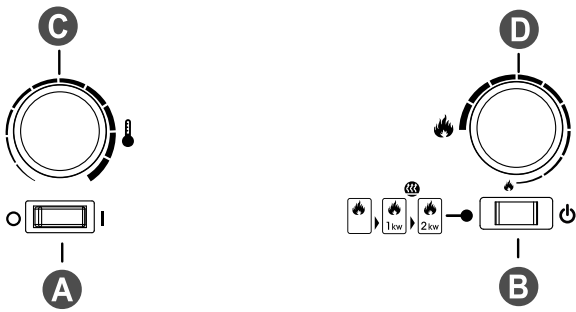

Fig.2
4. The flame control knob 'D' Fig.2 may be turned up or down to give a more realistic effect.
1. Press Switch 'A' to **(0)** (See Fig.2)
9. Press Switch 'A' to 'ON' (I) position (See Fig.2)
1. Press Switch 'A' to the 'OFF' (0) position (See Fig.2)
7. Press Switch 'A' to the 'ON' (I) position (See Fig.2)